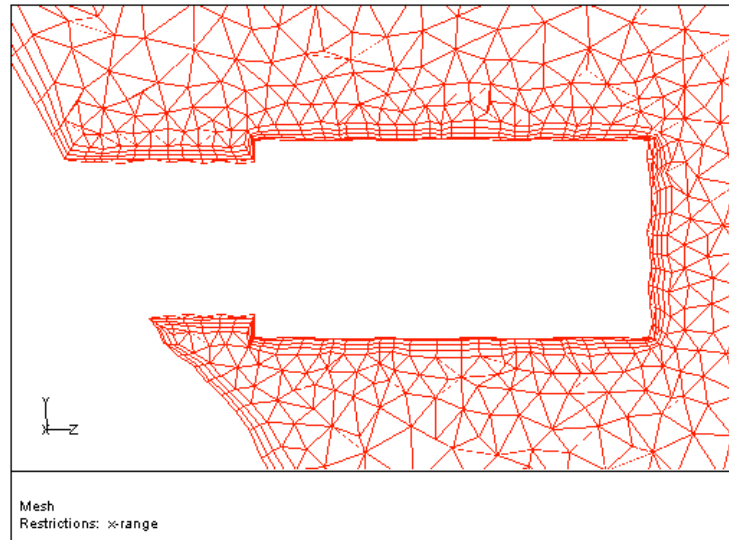

Figure 8.7: Hybrid Mesh Near the Mirror
- (g) Zoom in and examine the mesh around the mirror (Figure 8.7).